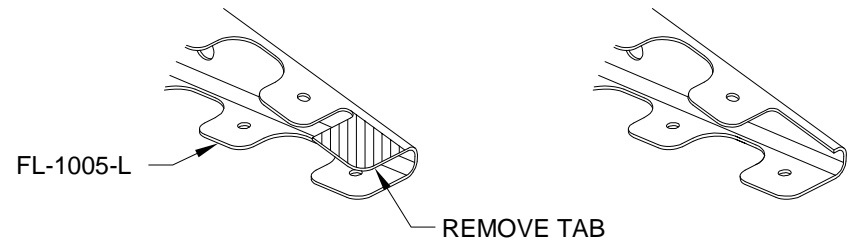

FIGURE 1: TRIM MAIN RIBS
Step 1: Trim away the small tab which has no pre-punched hole on all FL-1005-L and FL-1005-R Main Ribs as shown in Figure 1. Trim only as deep as the notch. This will permit dimpling of the rivet hole in the lower aft-most flange.